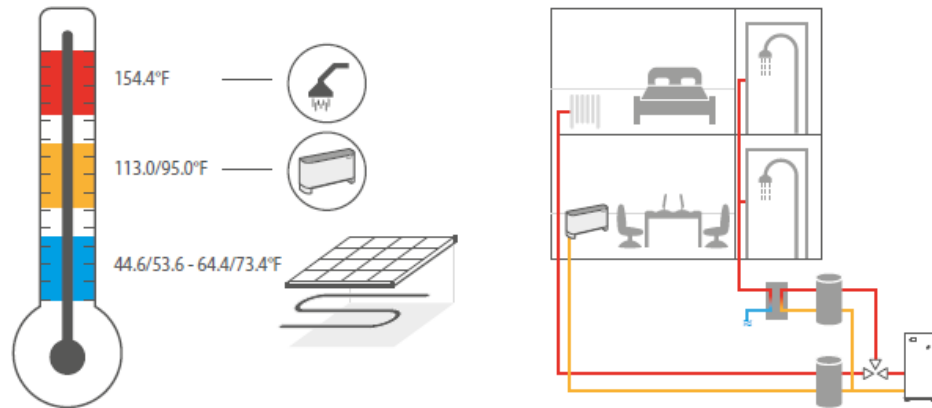

FIGURE 1: AERMEC WRK SYSTEM CONFIGURATION
- The space heating boilers are relatively new and have a median equipment life expectancy of 25 years. Both boilers are plumbed in series, with duty cycling, and provide up to 2,853 MBH of peak heating capacity to the building. It is assumed these are oversized and a replacement air-to-water heat pump would be sized at 1.4 times the building heating load. Using an estimated monthly gas use of 2,500 therms, a replacement heat pump unit would need to supply 600-650 MBH of heating. Few systems of this size exist in the market currently, but one option is the model WRK system from Aermec which can provide not only heating, but cooling and domestic hot water as well (Figure 1). The product datasheet can be found in Appendix 1.